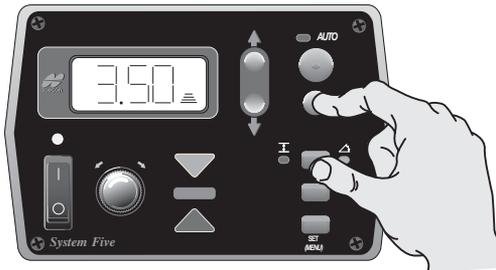

Figure 7-19. Surveying Tracker to On-grade
2. Switch from slope to elevation control on the Control Box and Survey the tracker on-grade (Figure 7-19).